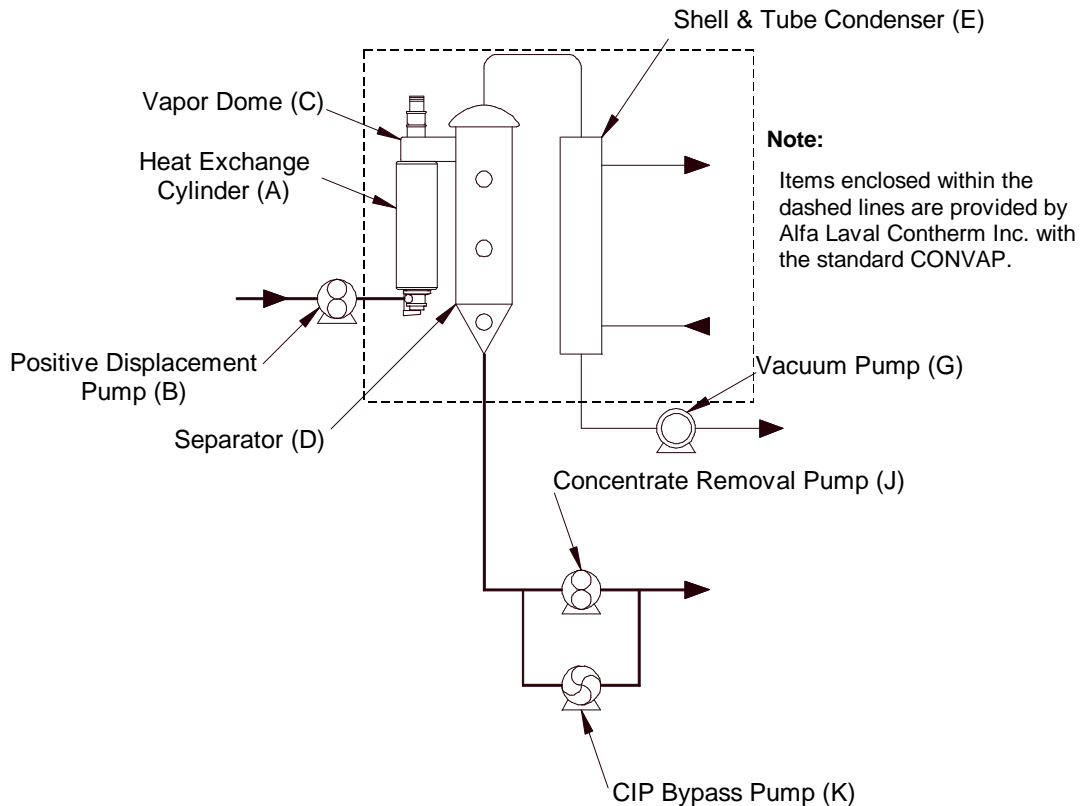
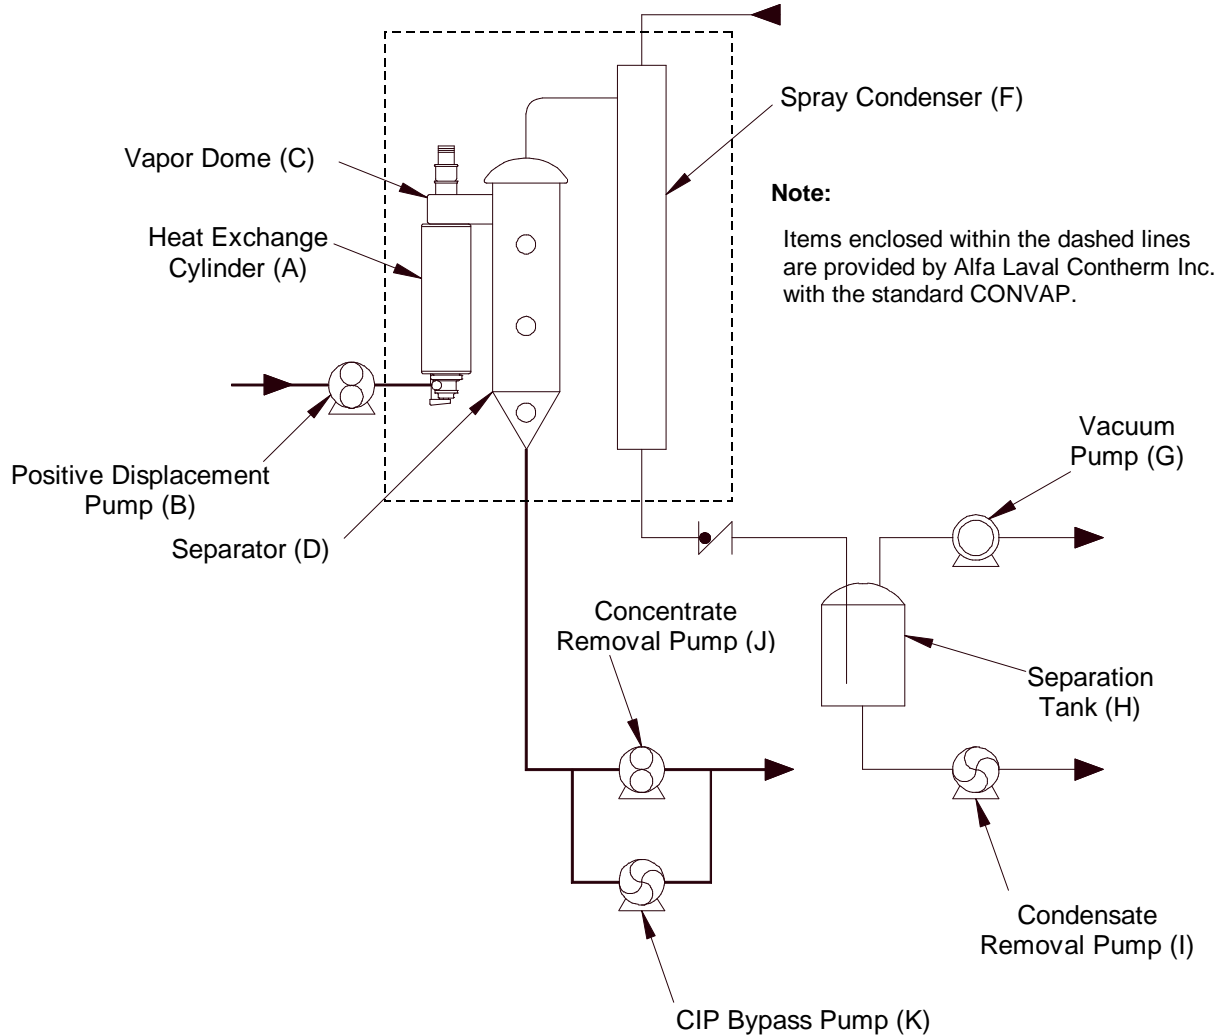

Figure 10-1. CONVAP Configured With Shell & Tube Condenser
Figure 10-2. CONVAP Configured With Spray Condenser
Two typical CONVAP configurations are shown in Figures 10-1 and 10-2. The operation of the CONVAP in each configuration is described in the following paragraphs. The principal difference between the two configurations is that the one shown in Figure 10-1 utilizes a shell & tube condenser while the one shown in Figure 10-2 utilizes a spray condenser with an associated separation tank and condensate removal pump.
1. By using a shell & tube condenser (E) to cool the condensate indirectly with water and then remove it with a vacuum pump (refer to Figure 10-1). In this configuration, the vacuum pump uses the condensate to augment its service liquid. The temperature of the condensate is critical to the proper sizing of this pump.
2. By using a spray condenser (F). If a spray condenser is used, a separation tank (H) and a condensate removal pump (I) must be added to remove the large quantities of water consumed (refer to Figure 10-2). The cooling water is sprayed into the vapor stream, condensing the vapor, and together are collected in the separation tank. The condensate removal pump, which is usually a Low NPSH (Net Positive Suction Head) centrifugal pump, removes the liquid. The pumping action of this pump is controlled by level switches placed inside the separation tank.
For fine control of the solids level when using the spray condenser CONVAP configuration shown in Figure 10-2, Alfa Laval Contherm Inc. recommends over-concentrating the product and then mixing a small amount of the condensate into the concentrate stream ahead of (before) the solids or density meter. The solid or density meter controls the amount of condensate being returned to the product.
Perform the Initial System Test in accordance with the procedure provided in Table 10-3. Refer to Figures 10-1 and 10-2 as necessary while performing this procedure.
The procedure for the start-up and operation of your CONVAP is provided in Table 10-4. Perform all steps of this procedure in the order in which they are presented. Two typical CONVAP configurations are shown in Figures 10-1 and 10-2. Refer to them as needed while performing this procedure.